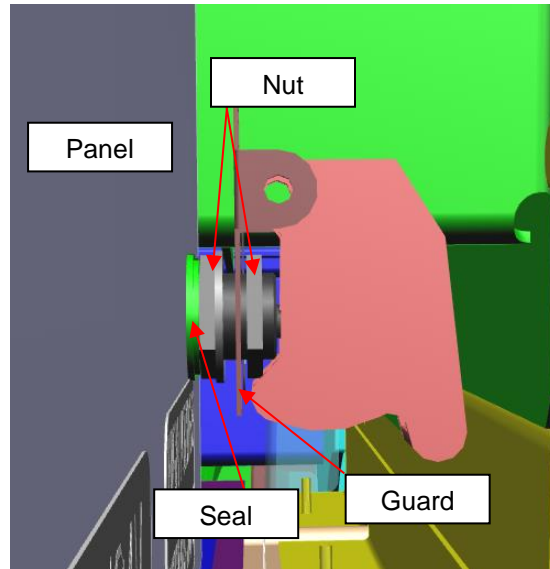

Figure 2: Emergency Power Switch Stack Up
- 4) Install the provided emergency power switch (PN: 117047), seal (PN: 400073), switch guard (PN: 8111605) and decals (PN: 535764 and 670903). For stack up of switch install see Figure 2.